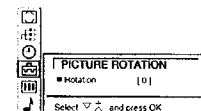

Fig. 17
- 4 Select »Picture Rotation« with Δ + or ∇ - and press OK. The PICTURE ROTATION menu appears. (See Fig. 17)